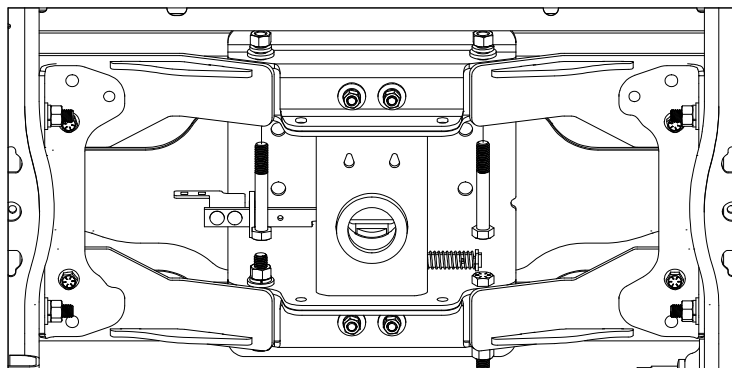

Figure D5: View looking up under the truck bed.
- 5. Position center section.** Place two 5/8" x 4-1/2" cap screws into the two large holes in the rear of the center through the two rear cross members, as shown in Figure D5. Loosely secure the cap screws with a 5/8" flat washer, lock washer, and nut.